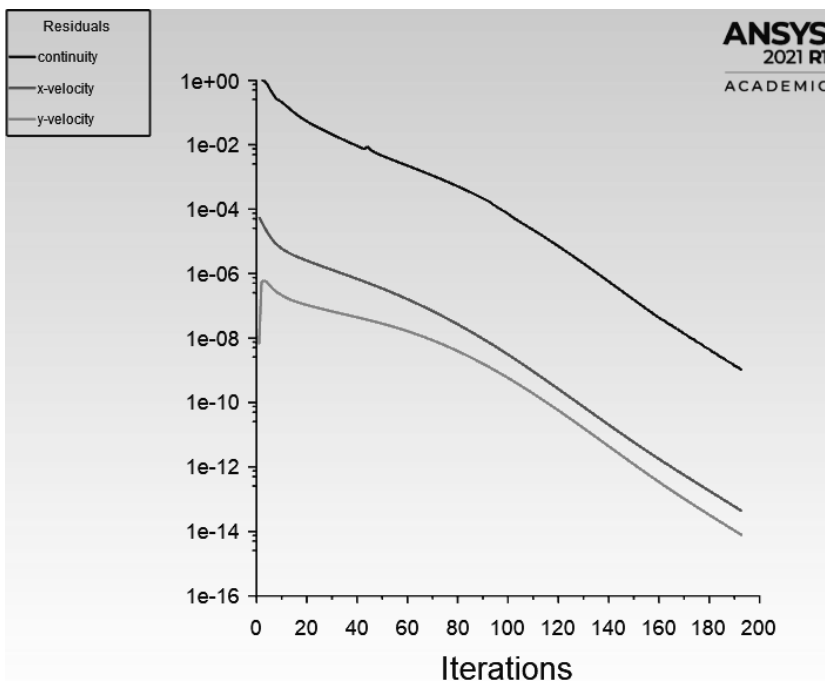
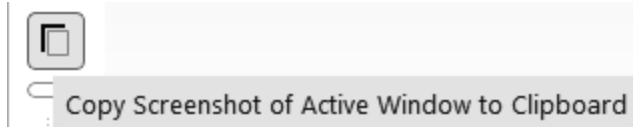

Figure 2.12b) Scaled Residuals
Figure 2.12c) Copying screenshot
Why did we set the Absolute Criteria to $1e-9$? Generally, the lower the absolute criteria, the longer time the calculation will take and give a more exact solution. We see in Figure 2.12b) that the x -velocity and y -velocity equations have lower residuals than the continuity equation. The slopes of the residual curves for all three equations are about the same with a sharp downward trend.
12. Double click on Run Calculation under Solution and enter 5000 for *Number of Iterations*. Click on the *Calculate* button. The calculations will be complete after 193 iterations, see Figure 2.12b). Click on Copy Screenshot of Active Window to Clipboard, see Figure 2.12c). The Scaled Residuals can be pasted into a Word document.